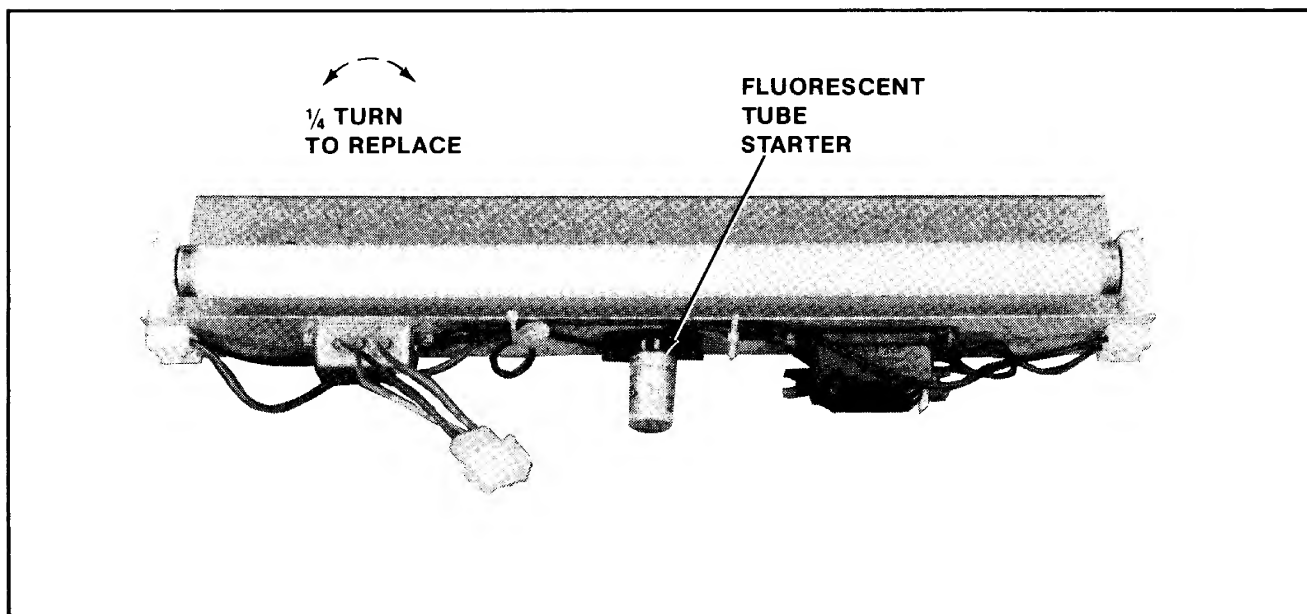

Figure 4-16 Replacing Fluorescent Tube Starter — Upright
- ☐ Replacing the fluorescent tube starter. See Figure 4-16.